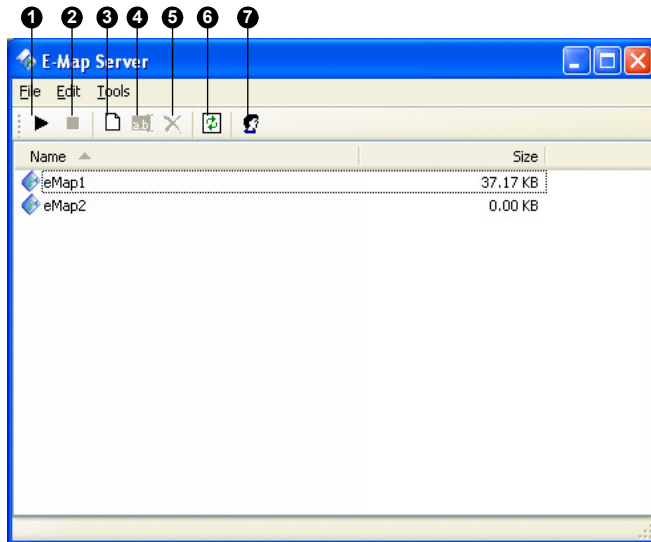

Figure 9-10
1. Click the **New** button (No.3, Figure 9-10) to create e-map(s). For details on creating an e-map file, see *Creating an E-Map File* earlier in this chapter.
2. Click the **Accounts** (No. 7, Figure 9-10) button to create a user account that will use the server.